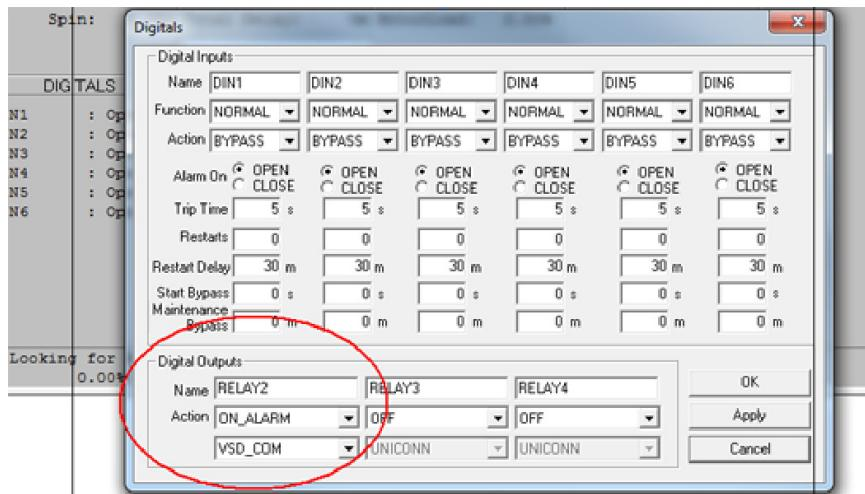

Figure 6-51: StarView Digital Output Setup 2
8. Open the “Digital” window and configure relay 2 to action on “ON_ALARM” and “VSD_COM” as seen in Figure 6-51: StarView Digital Output Setup 2